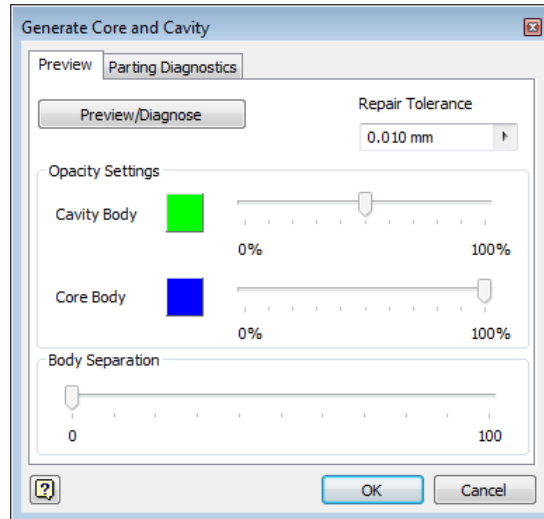

*Figure 19-77 Preview of the runoff surface*
2. Select the outer loop of the top face of the model; a preview of the runoff surface is displayed, refer to Figure 19-77.